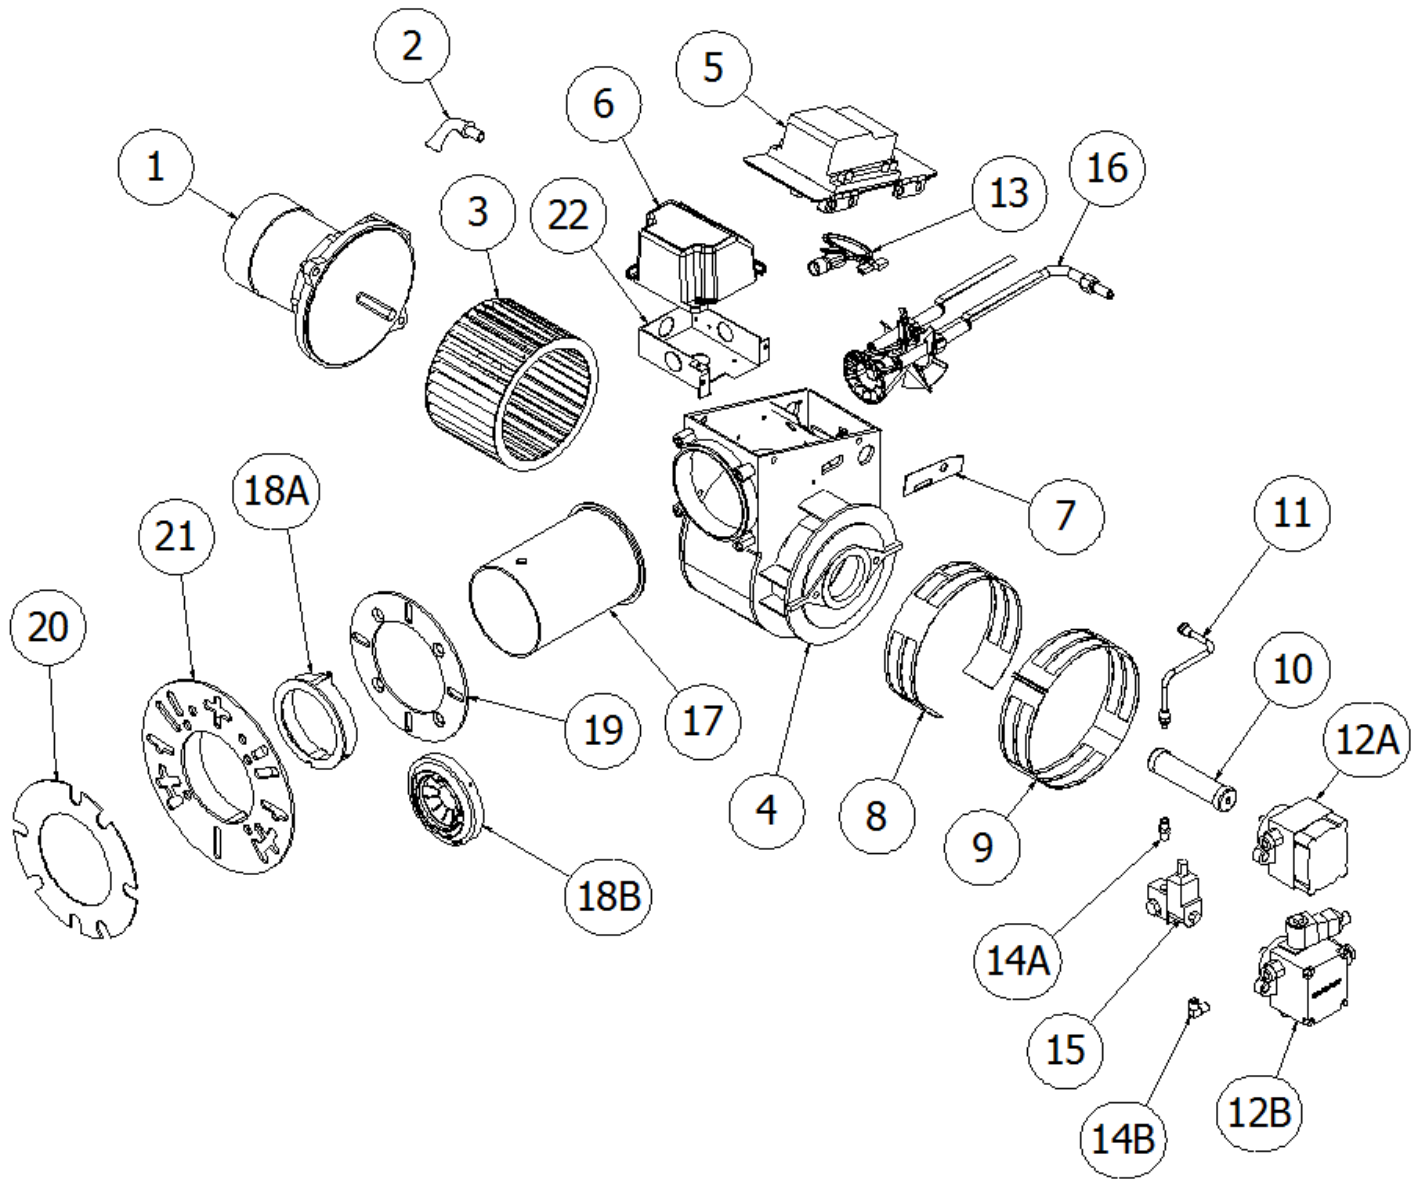

Figure 1- Burner Components – Models EHASR, EHA, and EH
Little or no fuel pressure from fuel pump	Increase fuel pressure to manufacturer's specifications. See Figure 25 on page 36 for pump features. Check that plastic coupler (see Figure 1 on page 13, item 10) is not slipping on pump shaft, replace as needed and/or replace pump.
Flex-coupling slipping on fuel pump shaft or burner motor shaft	Replace as needed. See Figure 1 on page 13, Item 10.
Fuel solenoid malfunction	Replace as needed. See Figure 1 on page 13 for replacement part.
Faulty burner ignition device	Test ignition device for proper arc between contacts. Replace as needed. See Figure 1 on page 13 for replacement part.
Fuel pump seized	Replace fuel pump. See Figure 1 on page 13 for replacement parts